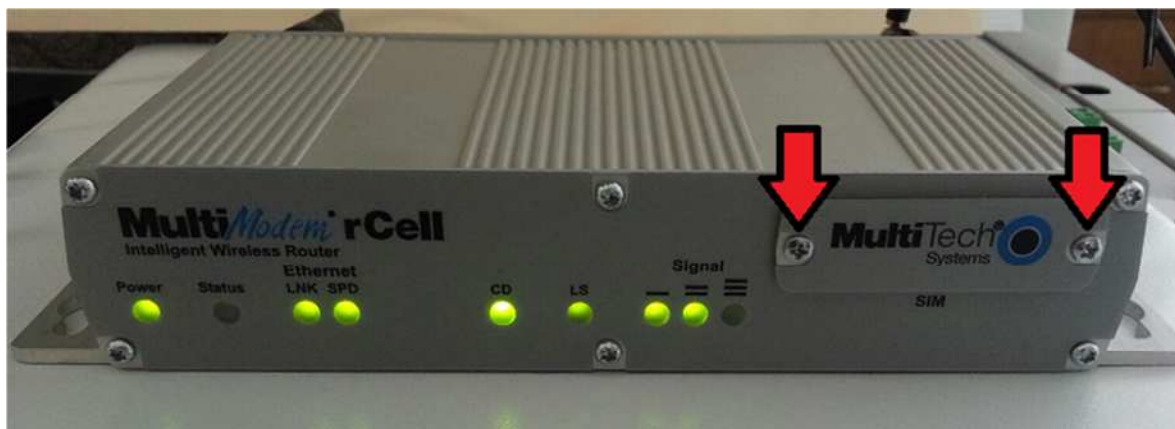

Figure 9 SIM Card Slot
2. Insert the SIM card provided by the cellular carrier by unscrewing the two screws shown in Figure 9. Remove the plate, and push the SIM card into its slot. Re-attach the plate using the two screws.